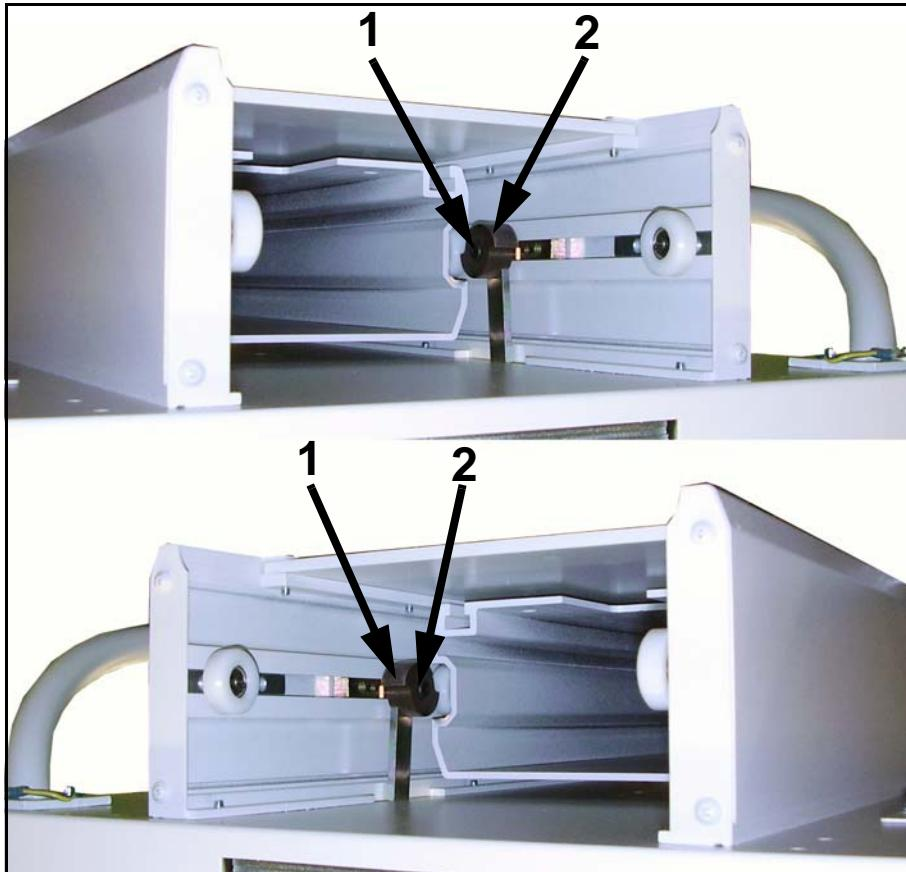

Figure 6-28. Cam Removal
- 7 Unscrew cam mounting screw (1 in Figure 6-28) and remove cam (2).